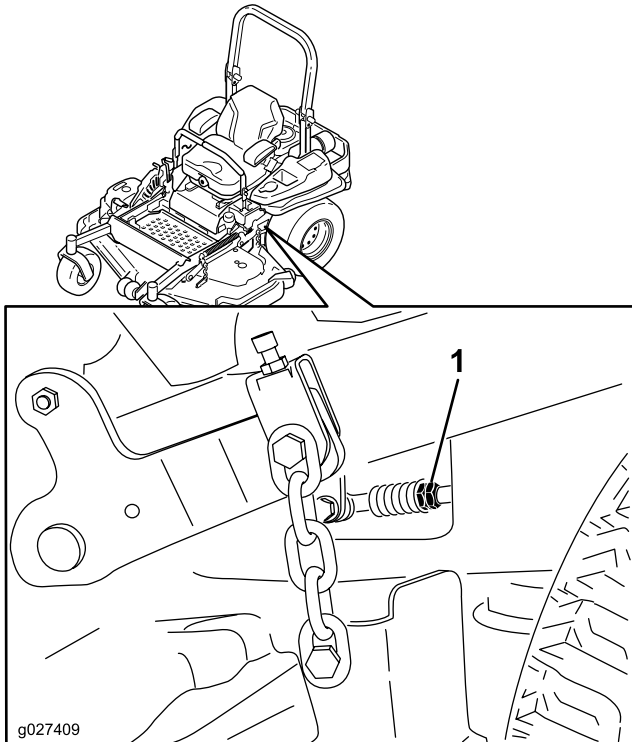

Figure 84
10. Adjust the pump-control-rod lengths by rotating the double nuts on the rod in the appropriate direction until the wheels slightly creep in reverse (Figure 84).